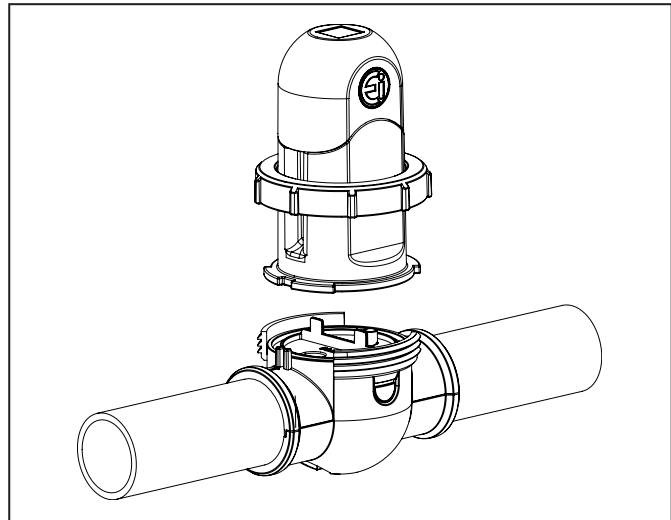

Figure 26. Remove the Cell
6. Remove the cell (see Figure 26).